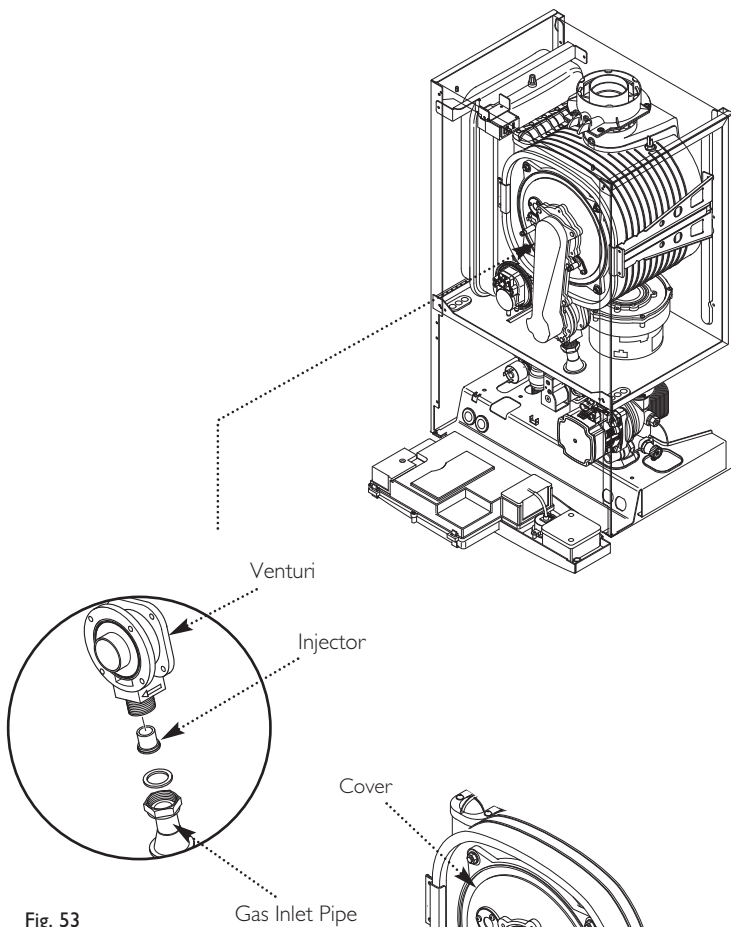

Fig. 53
13.4 Fan (Fig. 53)
1. Undo the nut on the gas inlet pipe to the venturi (Fig. 53) and pull the sensing pipe off the fan.